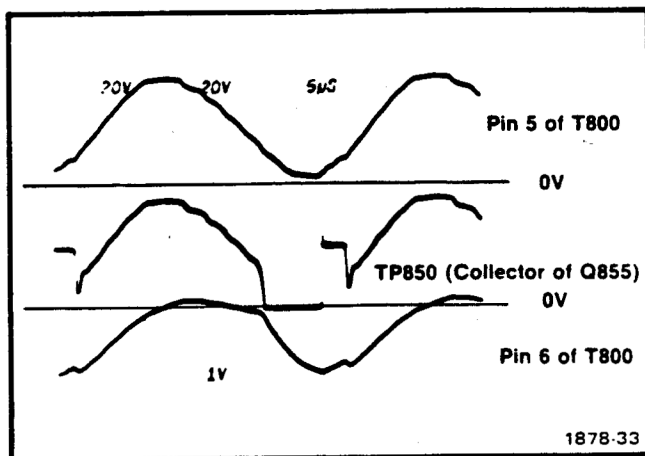

Fig. 3-2. Time relationship of waveforms at three points in the high-voltage regulator.
**High-Voltage Regulation.** Refer to Fig. 3-2 during the following discussion. Regulation is accomplished by sampling the  $-2$  kV across voltage divider R893C-R893D and comparing it to a  $+20.0$  V reference supply. The junction of R893C-R893D as well as pin 3 of U860, is nominally 0 V. If the  $-2$  kV supply should become less negative, the junction of R893C-R893D and hence pin 3 of U860 becomes more positive, causing the output (pin 6) of U860 to go positive. The output of U860 going positive results in increased charging current for C857, which will cause Q855 to conduct longer during each cycle, thereby increasing the average current to T800 and T850. As Q855 begins to conduct, T850 allows it to saturate while providing positive feedback from its one-turn winding to ensure that saturation will continue until pin 5 of T800 is at its most negative voltage. During the conduction of Q855, C854 is charging, then at the time pin 5 of T800 is at its most negative voltage, C854 starts discharging, cutting off CR855 and turning on CR853 to provide base current to Q860. Q860's conduction reduces the base current of Q855, thus causing its collector to go more positive. The turning off of Q855 is speeded up by the action of T850 with its one-turn winding. The current through T850 and the energy stored within the coil now flows through T800 via Q850 and CR850. Q850 remains turned on until T850 has been completely discharged. With 0 V across Q850 base-emitter, the primary of T800 may now swing more positive than the input supply voltage.